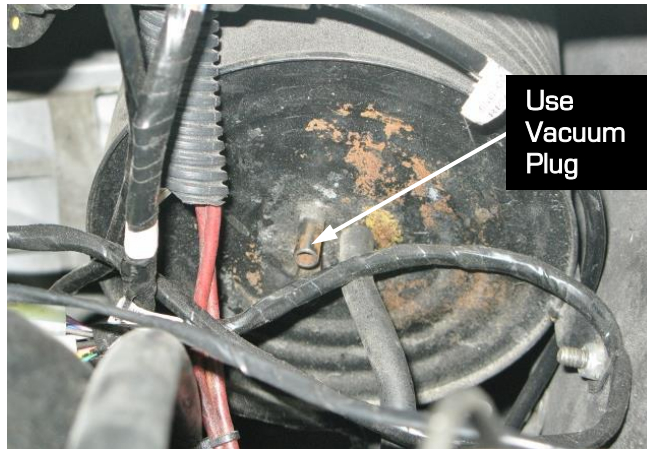

Figure 6 - Replace Hoses on Vacuum Tank with Plugs
6. Remove the vacuum actuator system from the vehicle along with any tanks, hoses, etc. as they will no longer be needed. **NOTE:** If you have a 1968-72 Corvette and are still using the stock wiper system, you will still need to keep the wiper door vacuum hoses and tank to operate the wiper door. You will need to use vacuum plugs on the vacuum tank or tube where you have removed the hoses for the headlight actuators (Figure 6 on the next page).